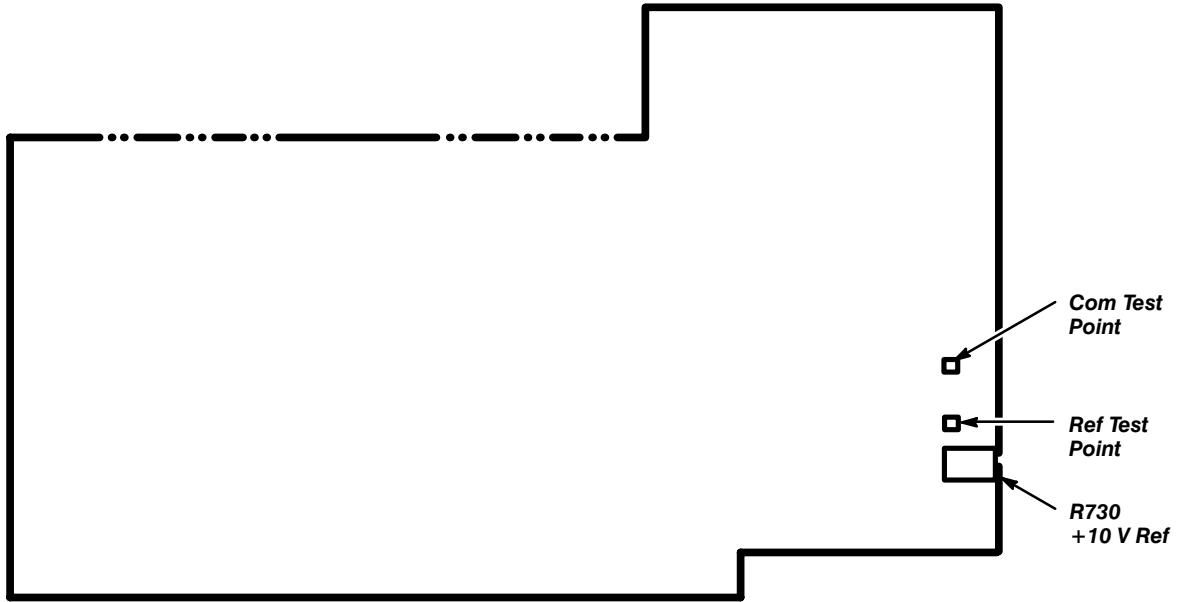

Figure 5-3: A4 Regulator Board Test Point and Adjustment Locations
- Step 1:** Make the connections shown in the setup and Figure 5-3 diagrams. Check that the CSA 803C power is ON.